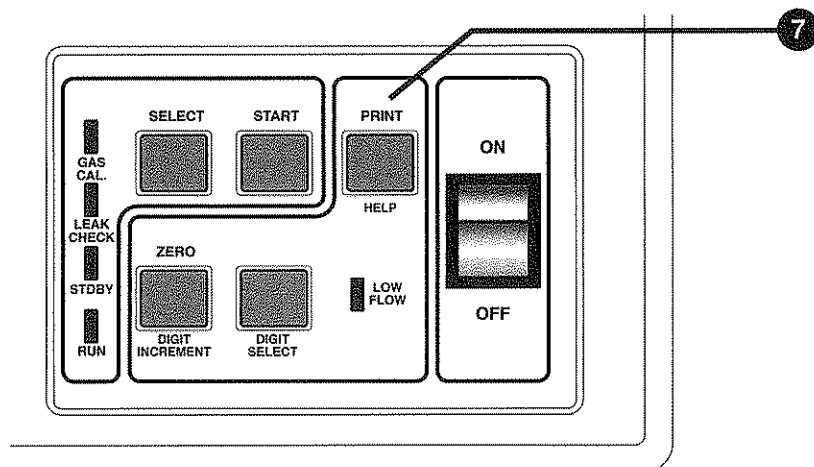

FIGURE 11:
**7. PRINT Switch** - (see FIGURE 11) When depressed, this switch causes the analyzer's printer to print either sample exhaust readings, or basic help messages **prior to depressing the START switch**, as indicated below, depending upon the **OPERATIONAL MODE** currently in effect as selected by the **SELECT** switch.
**A. RUN Mode** - When the **PRINT** switch is depressed in the **RUN** (exhaust sampling) mode, it will direct the printer to print out the readings shown on the four (4) LED displays. A sample printout is shown below. The first five lines of the printout are provided for the technician or service writer's convenience.